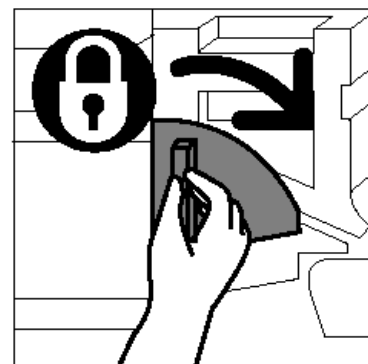

Figure 33: Locking the Copy/Print Cartridge
- 9 Rotate the Copy/Print Cartridge gold latch release clockwise to its locked position, as illustrated in Figure 33.